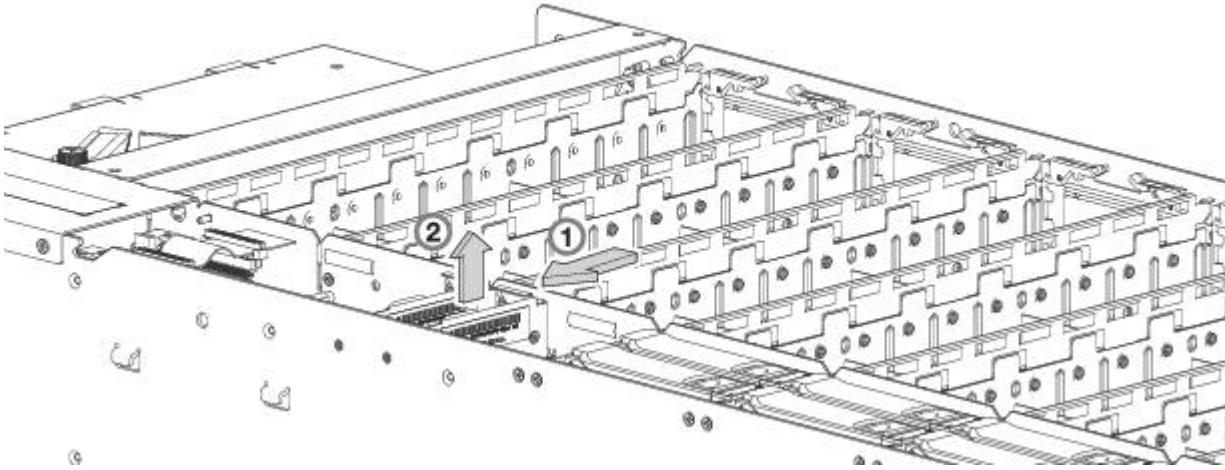
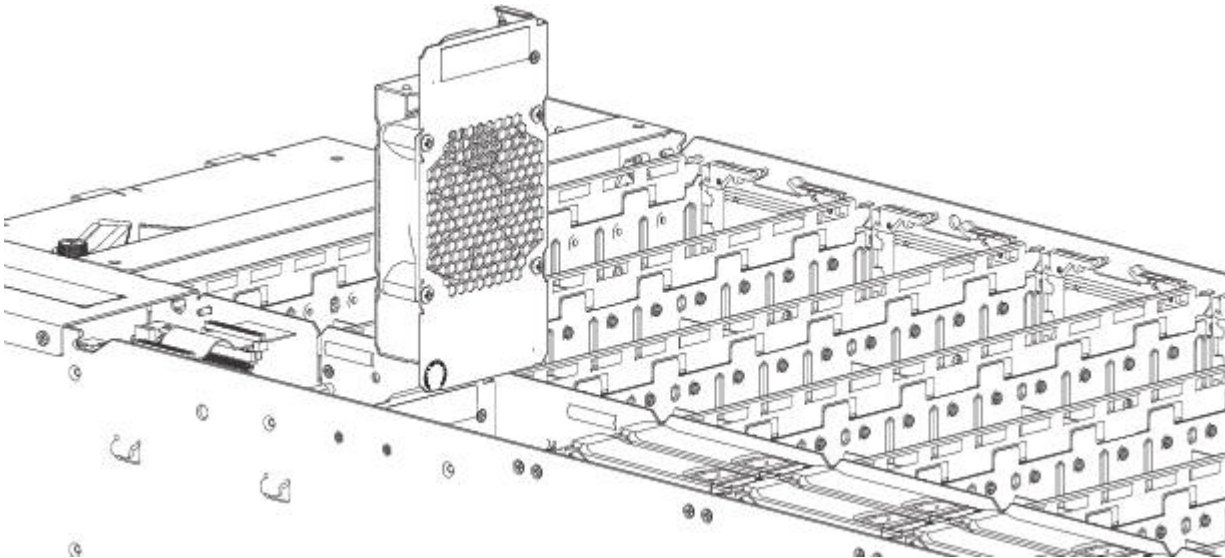

Figure 66. Removing a controller fan (1 of 2)
Figure 67. Removing a controller fan (2 of 2)
1. Grasp the latch tab on the interior channel wall of the enclosure, and squeeze the tab against the wall to release the channel fan from its locked position as shown in Figure 66 on page 80.
2. With your other hand, grasp the handle located on the top of the fan, and pull upwards to remove the fan from its slot as shown in Figure 67.
Refer to Figure 66 and Figure 67 when performing this procedure, but ignore the directional arrow—since you will insert the module into the slot—rather than remove it.